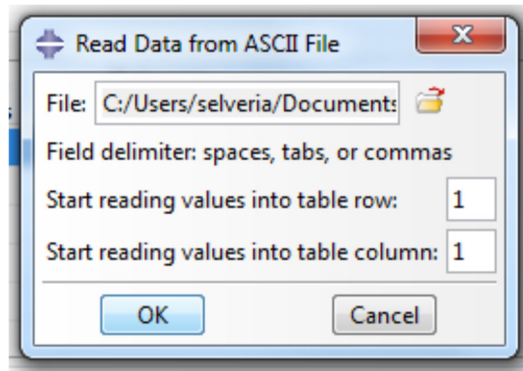

Figure 11.
- f) Click “OK” again in the next window, Figure 11.